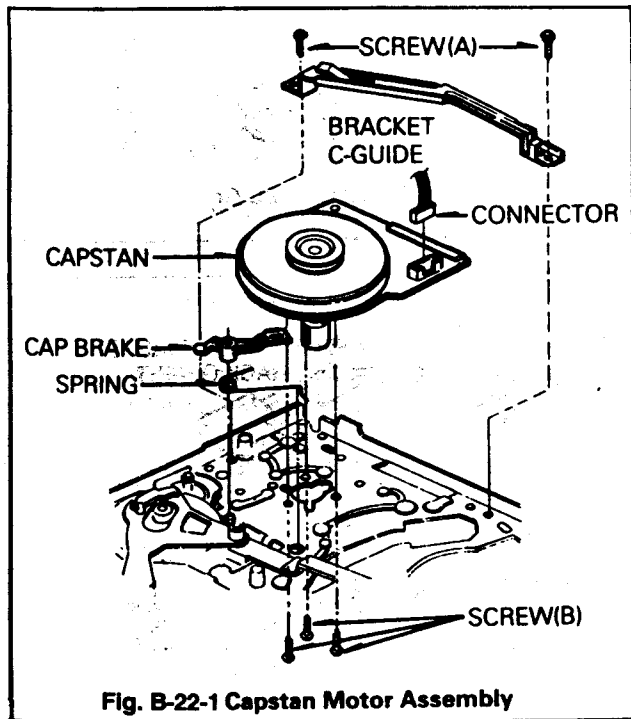

Fig. B-22-1 Capstan Motor Assembly
22. Capstan Motor and Brake Assembly (Fig. B-22-1)